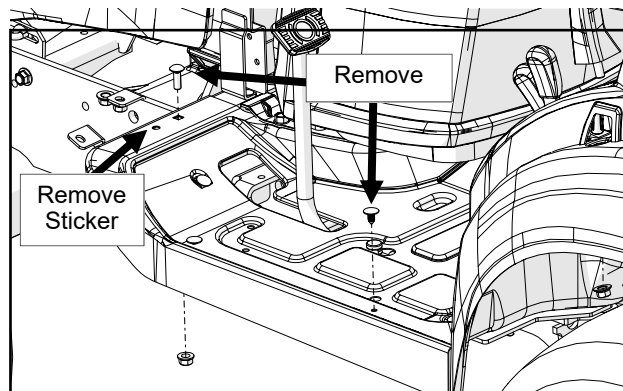

Fig. 1.3 (Remove Carriage Bolts and Fir Tree Clips)
- 1.3 Remove and discard the two carriage bolts and two orange stickers on the front of the floor board on either side of the radiator. See Figure 1.3.
- 1.4 Remove and discard the fir tree clip on the left side of the floor board as shown in Figure 1.3. Remove and discard the opposite fir tree clip on the right side as well.